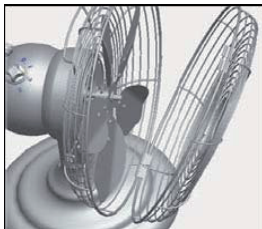

Figure.5
5. Remove the Grill Ring from the front grill by unscrew the screw holding it. Place the Front Grill against the Back Grill and push together until the tabs on the grills hold them together. Fig. 5. Slide the Grill Ring over both Front and Back Grills turning it so the screw that will secure it is on the bottom. Tighten the Screw to secure the Grill Ring over the Front and Back Grills.